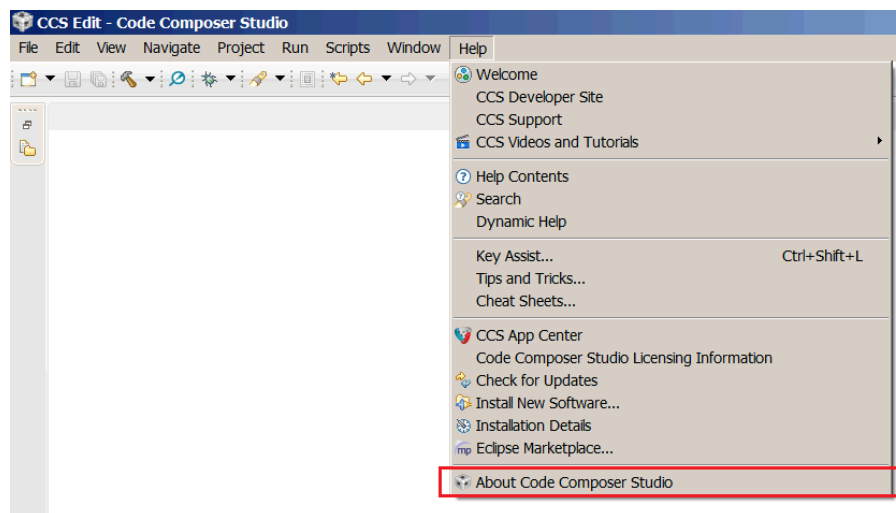

Figure 2. About Code Composer Studio
- (a) Select **About Code Composer Studio** from the **Help** menu (see Figure 2).